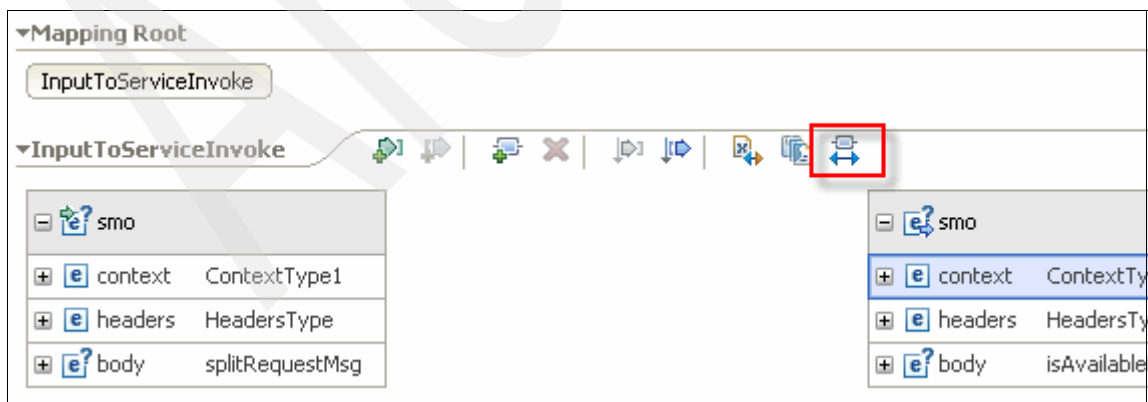

Figure 6-35 *Mapping source and target based on names and types*
4. Now, define the transformation behavior. Click the **Map source to target based on names and types** icon at the top of the XML mapping editor, shown in Figure 6-35. This utility defines wiring between the source and target for all of the objects that it finds compatible in name and type. This method is a safe way to ensure that the contexts are always matched and carried unchanged through the mediation.